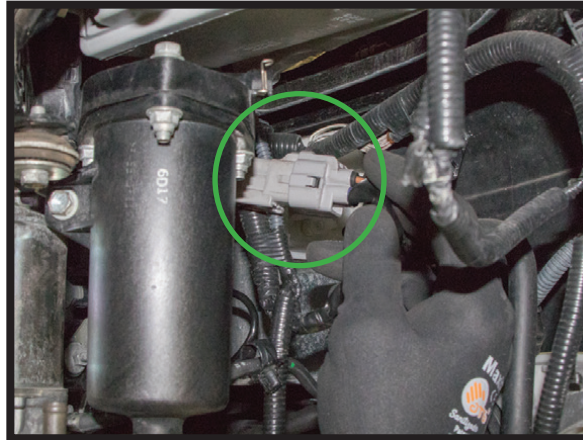

FIGURE 4
6. DISCONNECT THE ELECTRICAL. (FIGURE 4)